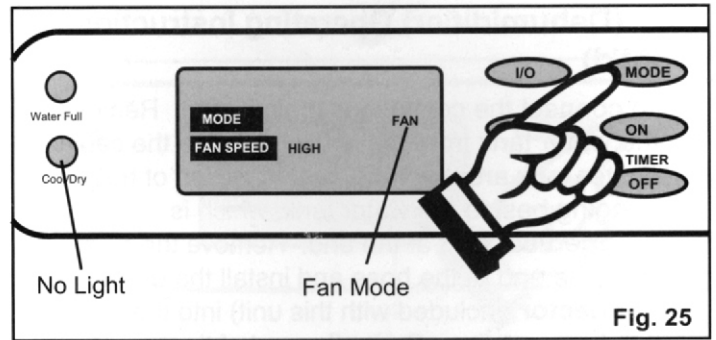

Fig. 25
- 2) Press the **MODE** key until the word **FAN** is displayed in the **LCD** window. *Fig. 25.* Each depression of the **MODE** key will advance to a different mode setting (**Cool-Dry-Fan**). No indicator mode light is visible during operation of the **FAN** mode (this is normal).